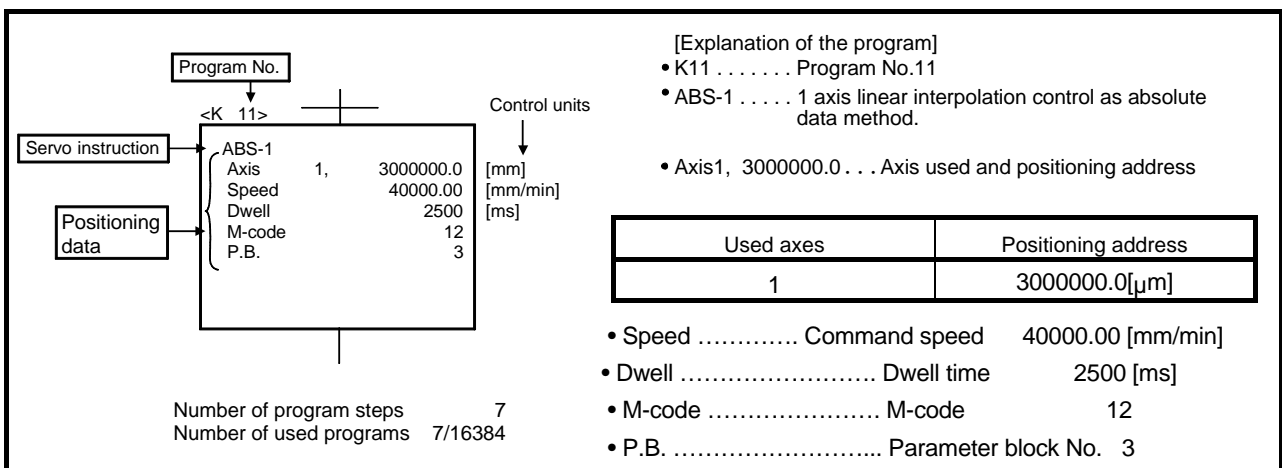

Fig. 9.1 Composition example of servo program
- (3) Positioning data This is the required data for executing servo instructions. The data required is fixed for each servo instruction. The following applies for the servo program shown in Figure 9.1: